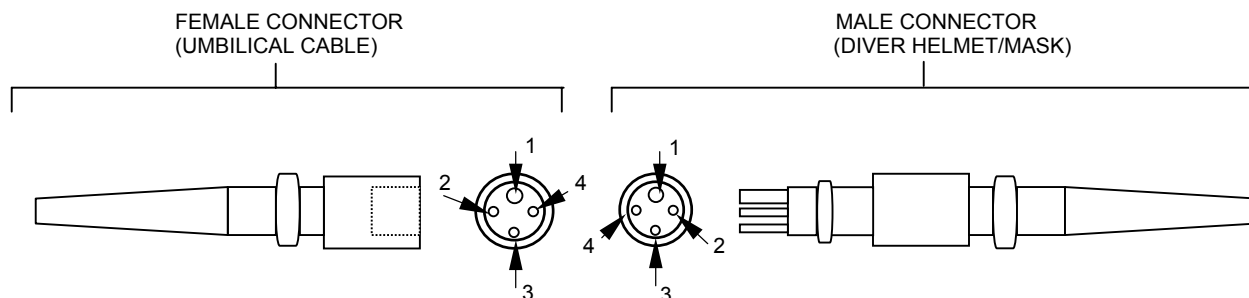
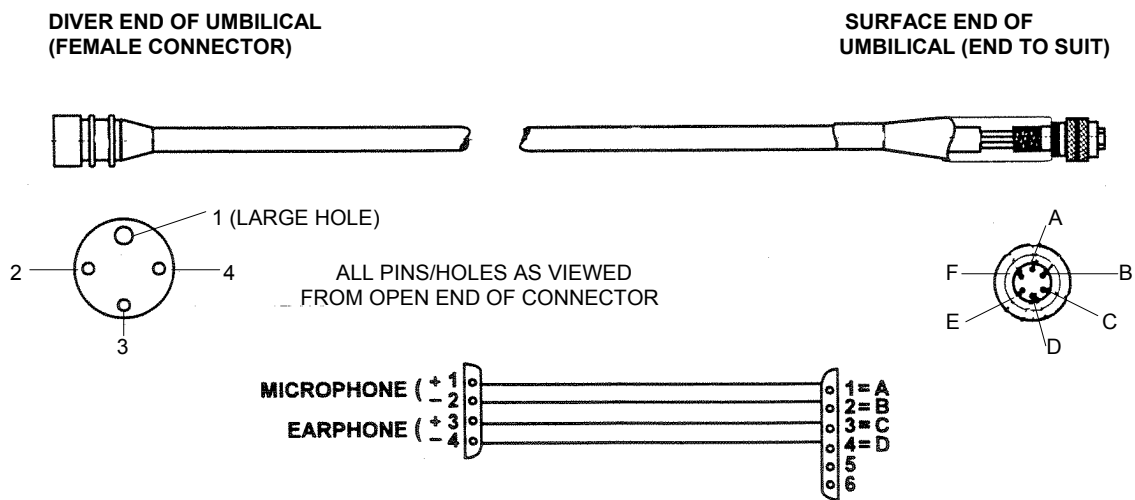

Figure 3-6. Waterproof Male and Female Electrical Connectors
Figure 3-7. Representative Communication Cable Wirings
**3-1.2.2 Waterproof Communication Connectors.** On the diver end of the umbilical is a female Marsh Marine Connector. This connects to the male Marsh Marine Connector on the diver's helmet or mask. The electrical connection for these connectors is a 4-pin male to 4-pin female sealed plug assembly (Figure 3-6). Care must be taken to correctly identify the pins and plug holes to prevent incorrect wiring of diver communication microphone and earphones. The electrical connector at the umbilical end is to be wired to match the electrical connections at the diver helmet/mask (see Figures 3-7 and 3-8) to allow proper communications between the surface dive control station, the diver, and other divers in the water.
Each segment of encapsulating heat-shrink tubing should extend approximately 1/4 inch over the insulation beyond the stripped conductor of each wire splice. The inner layer of tubing over the splice should extend approximately 1 inch onto both the communication cable and communication fitting insulation covers; the outer layer should extend approximately 1 to 1 1/2 inches each side of the splice (see Figure 3-6).